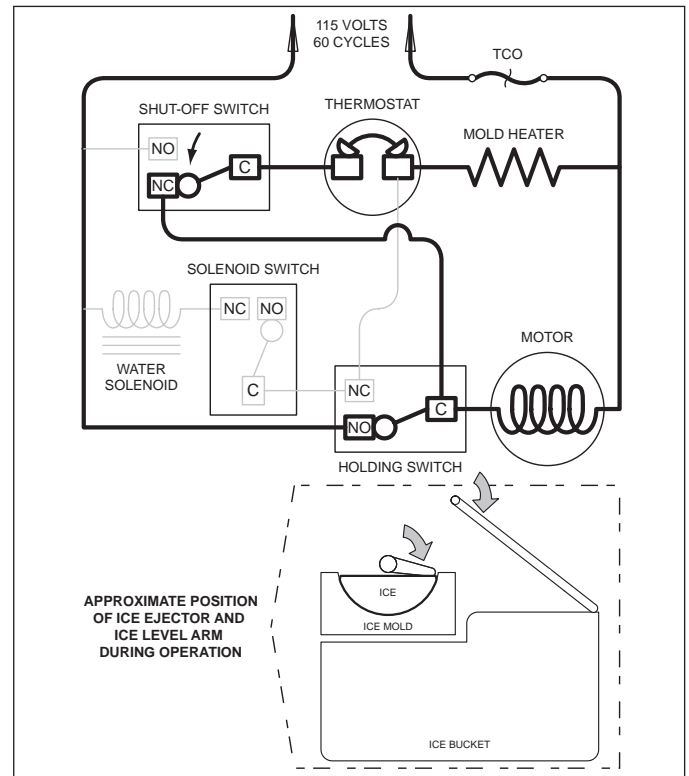

**Figure 6-4. First Revolution Continued**
**First Revolution Continued (See Figure 6-4)**